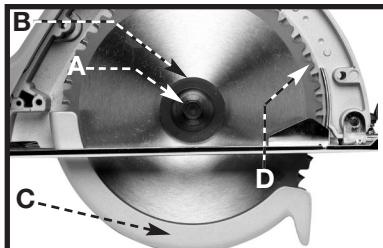

Fig. 9
5. While holding the arbor lock (B) Fig. 7, use the provided wrench to loosen the blade retaining bolt (A) Fig. 9.
6. Remove the blade retaining bolt by turning it counter-clockwise, release the arbor lock, and remove the outer blade flange (B) Fig. 9.
2. Clean the inner blade flange and place the new blade on the arbor, making sure that the teeth point up as in (D) Fig. 9. **NOTE:** Use blades that have a 20mm arbor, and that are rated for 4200 rpm or higher.
3. Place the outer blade flange (B) Fig. 9 on the arbor with the flange toward the blade and with the flats matching those on the arbor.
4. Replace and finger-tighten the blade retaining bolt (A) Fig. 9 by turning it clockwise.
The telescoping guard (C) Fig. 9 is a safety device important for your protection. Every time you use the saw, make sure that the telescoping guard rotates freely and returns quickly and completely to its closed position. Before each use, remove any accumulated chips, or shavings from the area around the hub (B) Fig. 9 of the telescoping guard. (Refer to “**REMOVING DEBRIS**”). **DO NOT LUBRICATE THIS AREA.** The hub has a dry film lubricated surface that does not need oiling. **NEVER** block or wedge the telescoping guard in the open position.